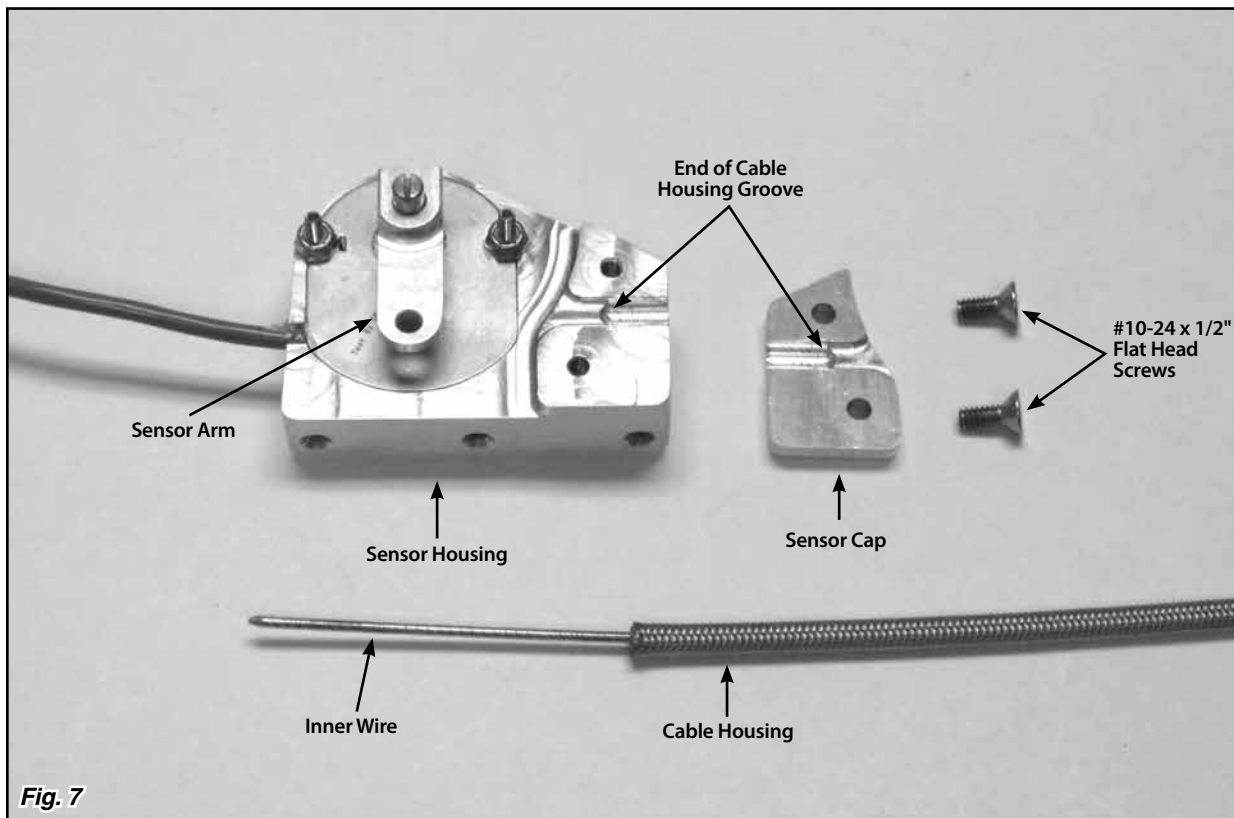
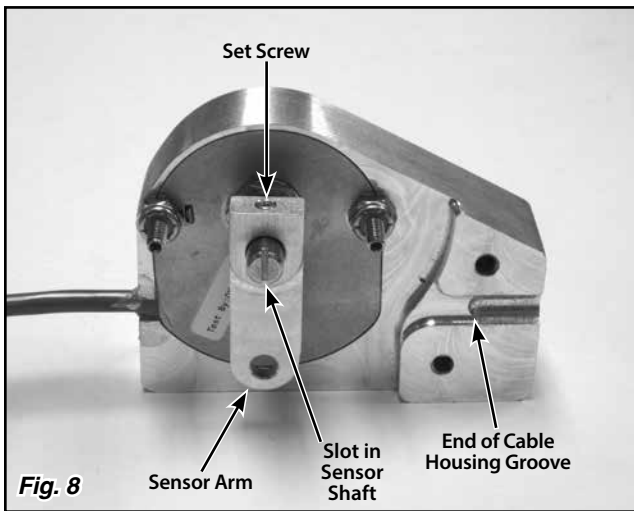

Fig. 7
Fig. 8
Step 3: Remove the sensor cap by removing the two #10-24 x 1/2" flat head screws using a 1/8" Allen wrench, and separate the cable housing from the sensor. Fig. 7
Step 4: Make sure the sensor arm is parallel to the slot in the sensor shaft, with the set screw in the top of the sensor arm aligned with the slot. If not, loosen the set screw in the top of the sensor arm using a 1/16" Allen wrench, and adjust the position of the sensor arm on the shaft. **Fig. 8**
There is a groove in the sensor housing that the end of the cable housing fits in to. Mark the cable housing at the end of the cable housing groove. Remove the cable housing from the adjustable cable mounting bracket. **Fig. 7 and Fig. 8**